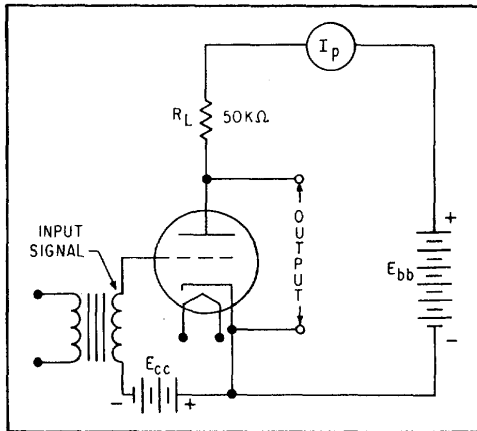

Figure 1B. — Triode operation.
- 1-28. The triode circuit depicted in figure 1B above contains a $50\text{ k}\Omega$ load resistor. When a 10-volt peak-to-peak ac signal is applied to the grid, current flow in the tube varies between 5 milliamperes and 12 milliamperes. What is the peak-to-peak amplitude of the output?